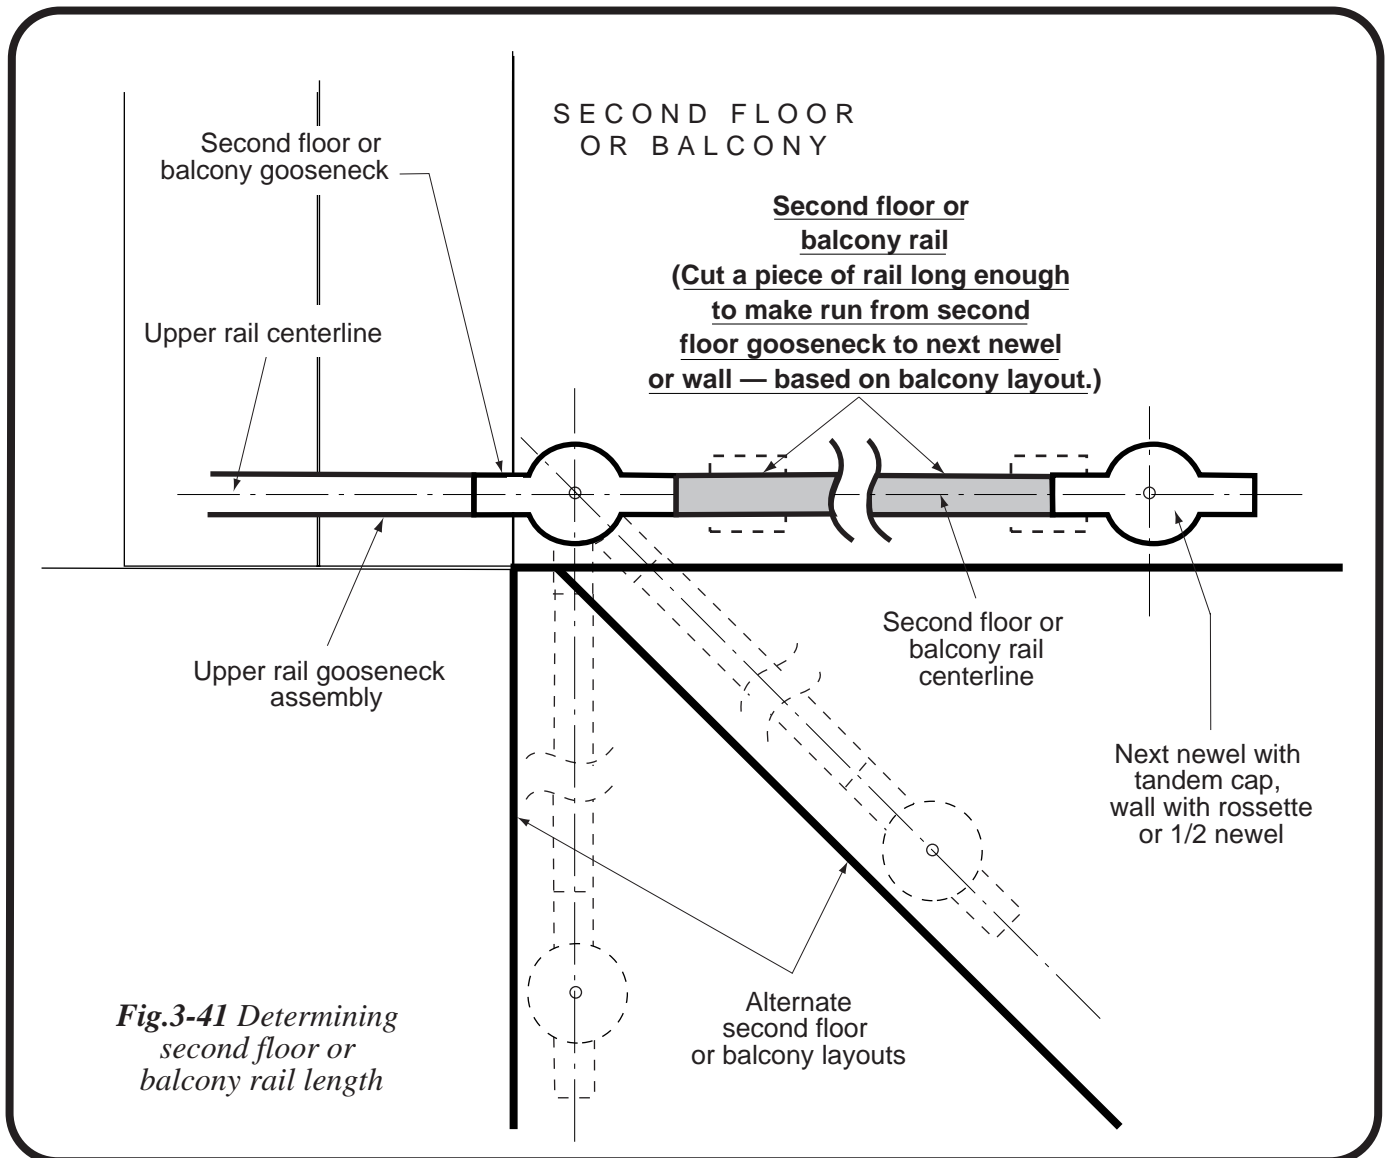

Fig.3-41 Determining second floor or balcony rail length
3. Draw newel layout at all intersecting points. It is critical that the intersecting point and the center of the newel are the same when you are using 135-degree fittings. Please note Fig. 3-41 here.